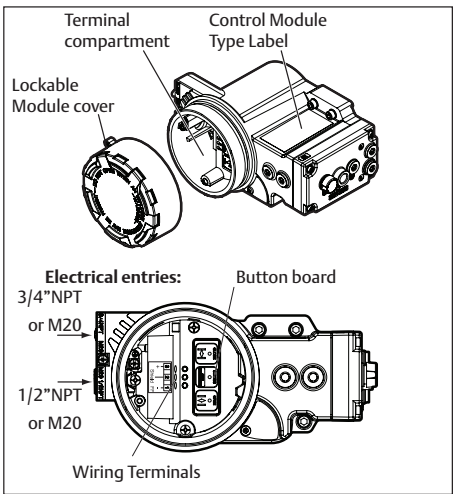

Fig. 4.2 Installing wiring
1. Remove control module cover (see figure 4.2)
4. Mount the function module cover to the housing (see figure 4.2) or continue with chapter 5.